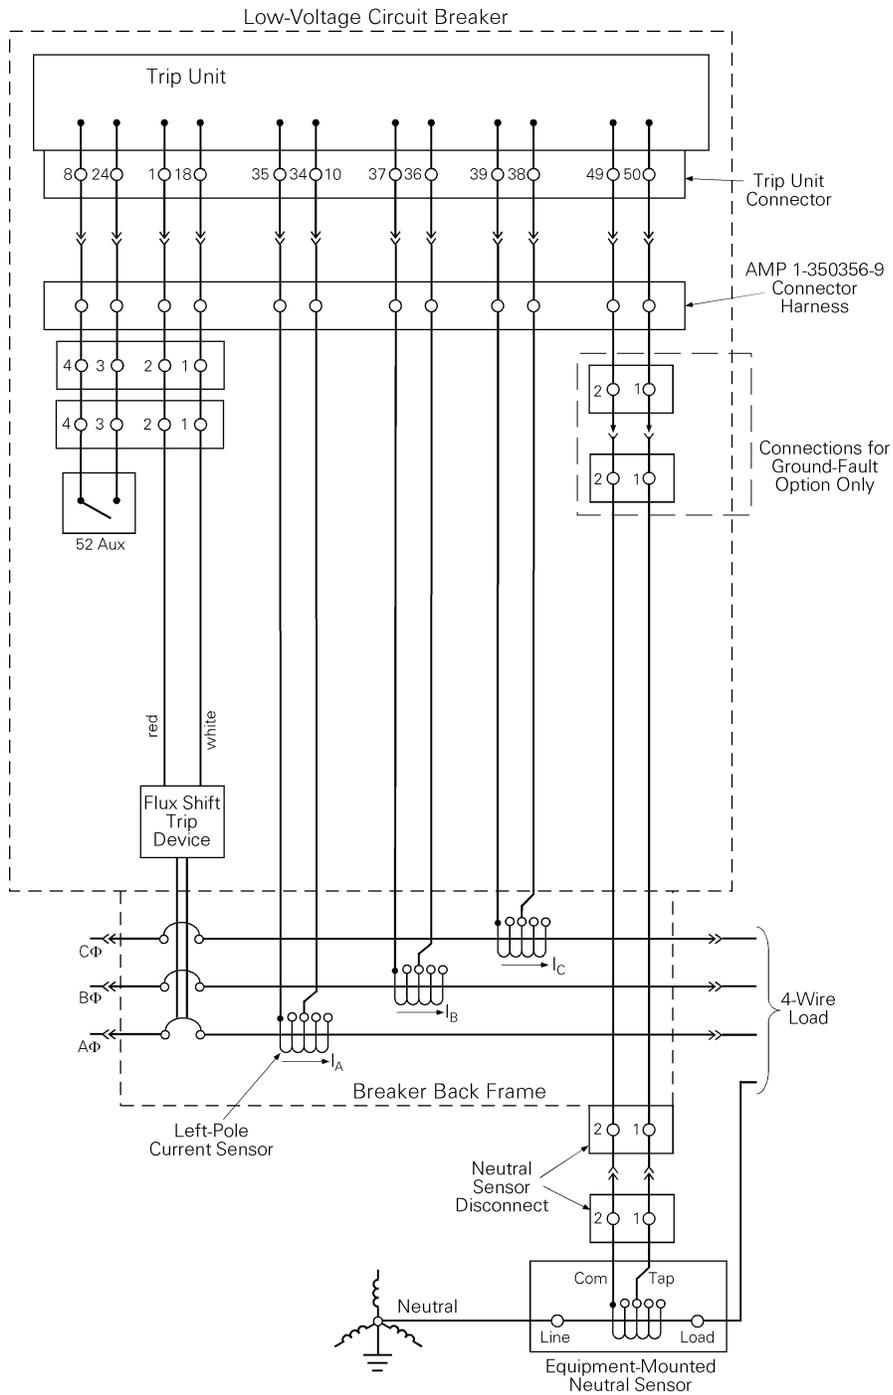

Figure 18. Cabling diagram for ProTrip™ trip units with ground fault on four-wire loads.
3. Verify that the wiring harness connections to the sensors have the proper polarity (white lead to common, black lead to tap), as shown in the cabling diagram in Figure 18.
4. On ground fault breakers serving four-wire loads, check that the neutral sensor is properly connected, as indicated in Figure 18. In particular, check the following: